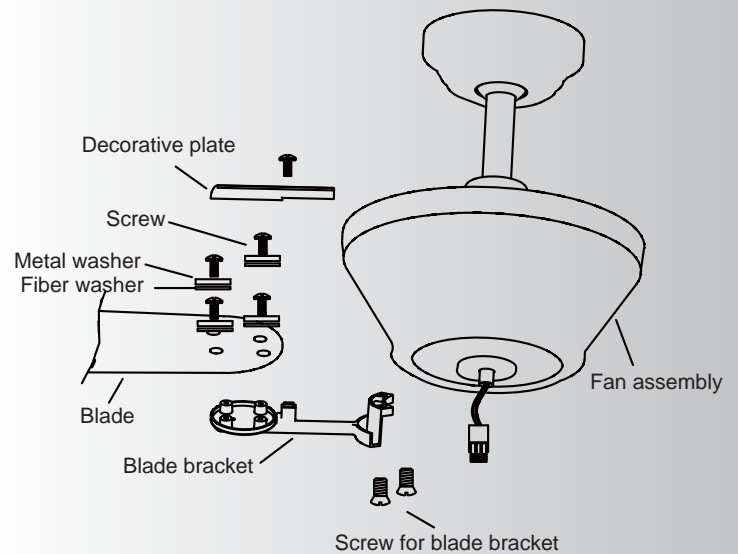

Fig. 16
Step 1. Attach the blade to the blade bracket using the screws, washers and fiber washers as shown in Figure 16. Start screw into bracket. Repeat for the three remaining screws.
Step 2. Make sure the blade is straight and tighten each screw. Finally secure the decorative plate on the top of blade with one screw provided. (Fig. 16)
Step 3. Fasten blade assembly to motor using "pre-installed" mounting screws in the blade bracket. (Fig. 16)